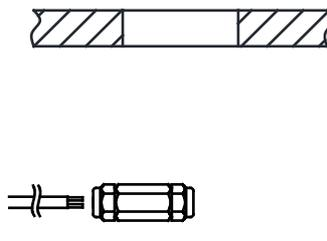

Fig 1.2
- 1.2 Connect the power cable to a waterproof junction box. (See Fig 1.2)